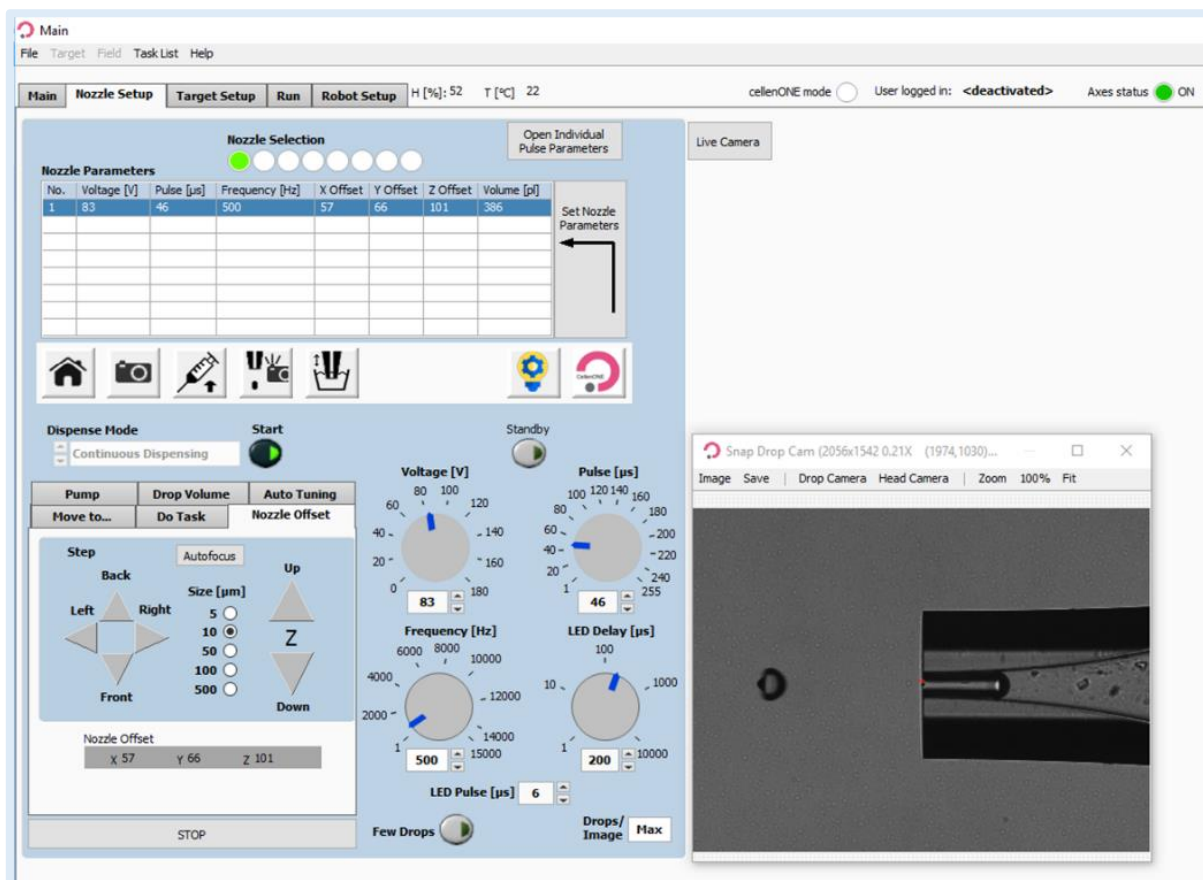

Figure 1: Drop optimisation
- Nozzle Setup (Figure 1) >> Nozzle Offset >> Up, Down, Back, Front, Left, Right controls.